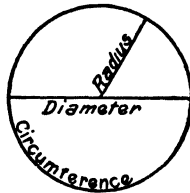

Fig. 35. Circle.
82. A *circle* is a plane figure bounded by a curved line called the *circumference*, every point of which is equally distant from a point within called the *center*, Fig. 35.